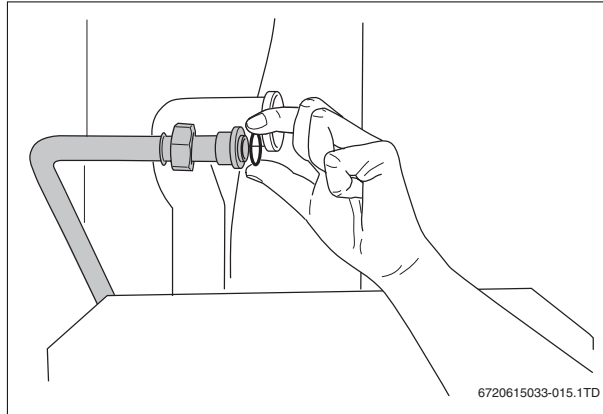

Fig. 11 Installing a new seal on the gas pipe
- ▶ Remove the seal from the gas pipe and install a new seal (→ fig. 11).